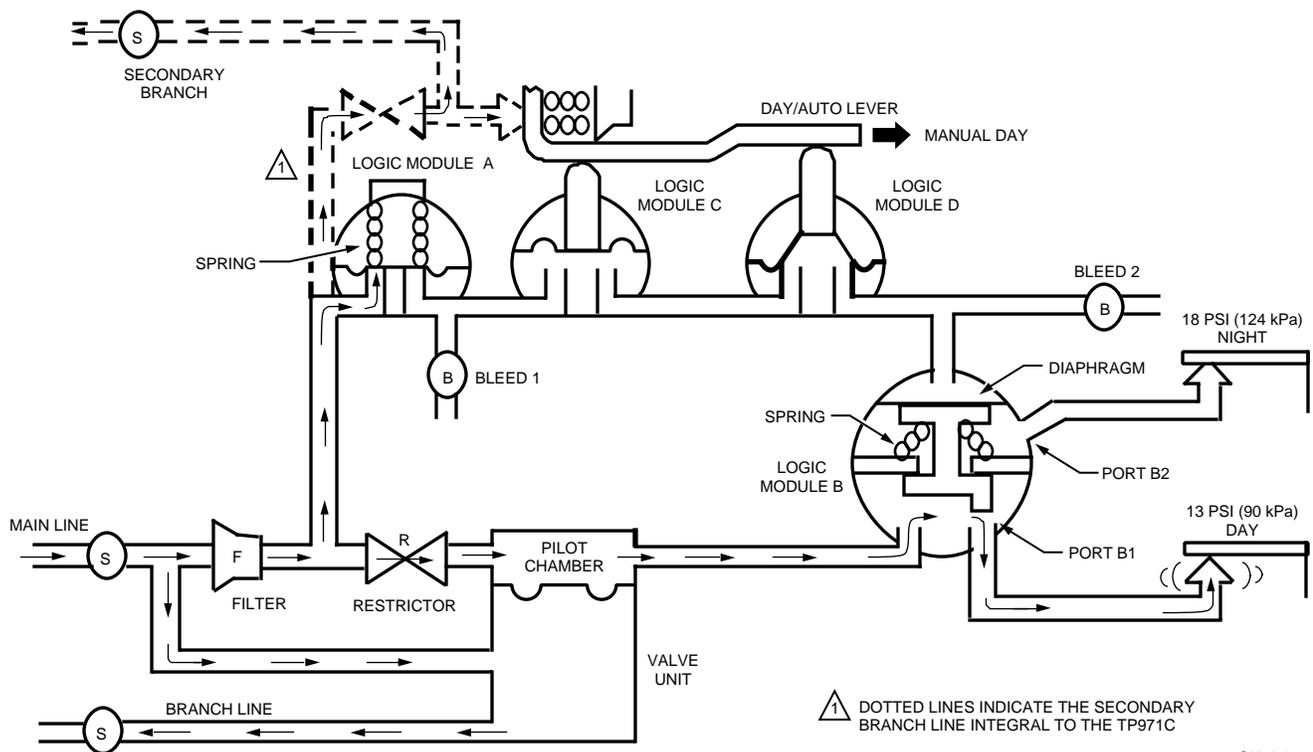

Fig. 13. TP971 and TP9610 Operation on Day Cycle—Main Air Pressure 13 psi (90 kPa).
Figure 13 shows airflow through the Thermostat during daytime operation. The main air pressure is at the lower, daytime operating pressure of 13 psi (90 kPa).
Air enters the Thermostat through the main line, passes through a screen, then diverts into the valve unit and through the multistage filter. The arrows in Figure 13 show main air traveling to Logic Module A, which is closed because the adjustable spring is set to open only at the higher nighttime pressure. Main air passes through the integral restrictor, into the pilot chamber of the valve unit, and in to Logic Module B. The spring holds Port B1 open because there is no air pressure against the top of the diaphragm of Logic Module B. This action allows air to pass through Port B1 to the 13 psi (90 kPa) (DAY) nozzle-flapper. The Thermostat now operates on a daytime cycle at the daytime setpoint. The valve unit operation is identical to that described in the Valve Unit Operation section.
1. System in normal daytime operation, 13 psi (90 kPa) main air pressure (Fig. 13 dotted lines).
2. Move the manual DAY/AUTO lever to the DAY position. It snaps back to AUTO because there is no air pressure on logic switch C (Fig. 13).